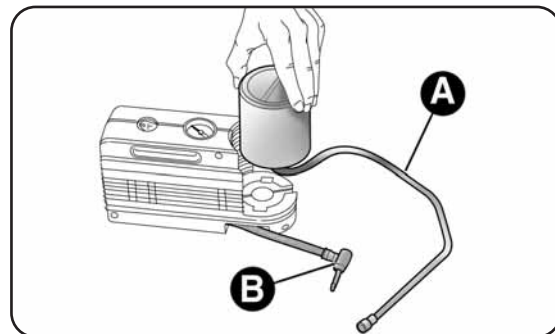

fig. 129
- release coupling A-fig. 129 and disconnect pipe B;